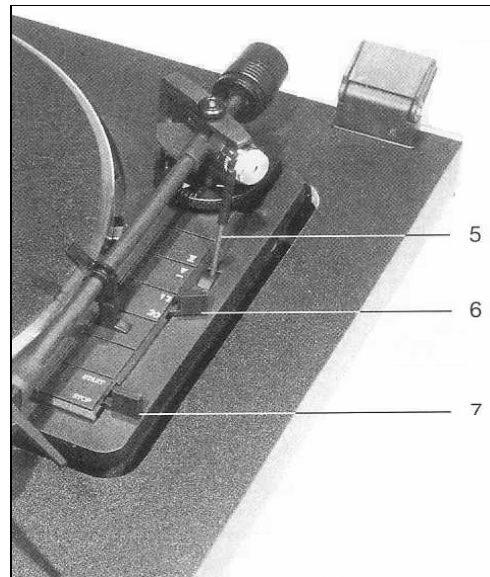

Fig.11
Move the knob (7) into position **Start** and the tone arm will be automatically lowered onto the record (Fig. 11)
Unlock the tone arm from its rest and move it above the lead-in groove of the record. The motor and platter will now start turning. By lowering the lift-lever (5) the tone arm gently declines, thus being very kind to your precious records. With the help of the lift-lever the tone arm may be moved up and down again anywhere across the record while the platter keeps turning (Fig. 11)